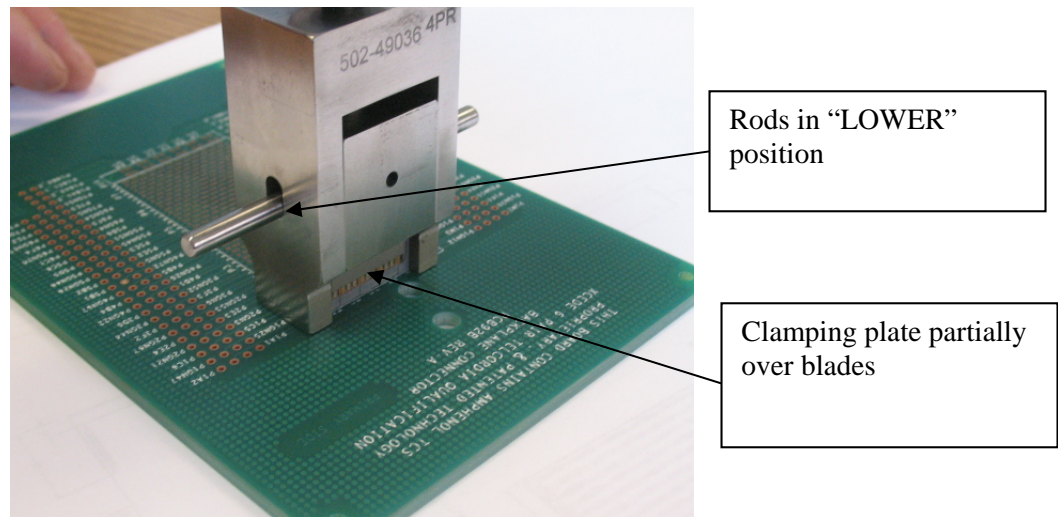

Figure 14. Blades Clamped into Tool
- Step 5. Slide side rods down so clamping plates partially cover blades as seen in Figures 14.